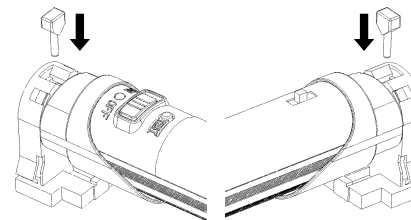

Fig. 3
10. Install the lamp locks into the lamp holders (see Fig. 3).